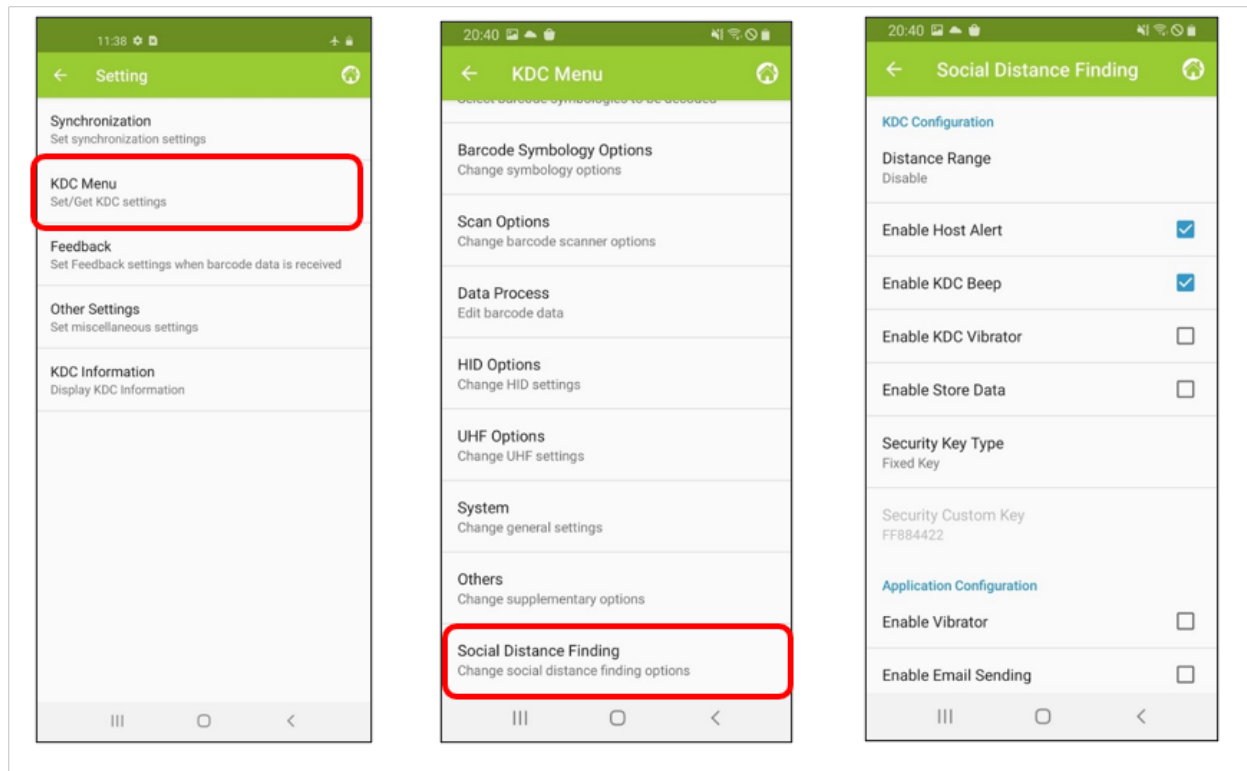

Figure 9 - Social Distance Settings
2. Select KDC Menu (Figure 9)
3. Select Social Distance Finding (Figure 9)
4. Choose your Social Distance settings. Settings listed in the KDC Configuration section are the same settings available to you as if you were setting parameters on the KDC itself. These settings will be saved when you exit this screen. (Figure 9)